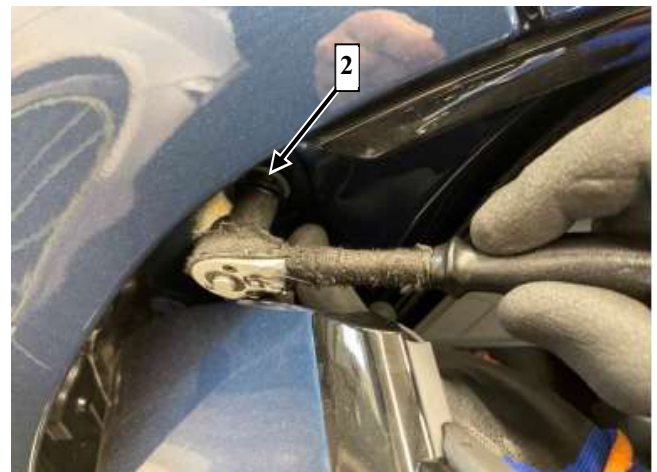

Figure 3
1. Release screw (**Figure 3, 2**) on underside of fender.